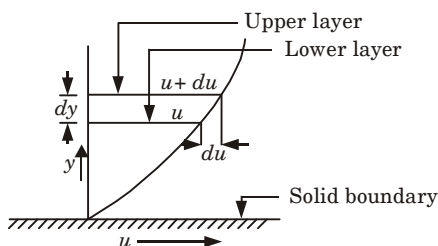

Fig. 1.1.1. Velocity variation near a solid boundary.
1. From Fig. 1.1.1, let two layers of fluid at a distance ' dy ' apart, move one over the other at different velocities u and $u + du$.